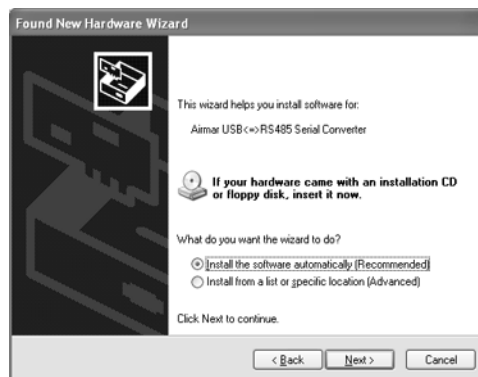

Figure 12. Found New Hardware Wizard window continued
4. Another Found New Hardware Wizard window will appear (see Figure 12).